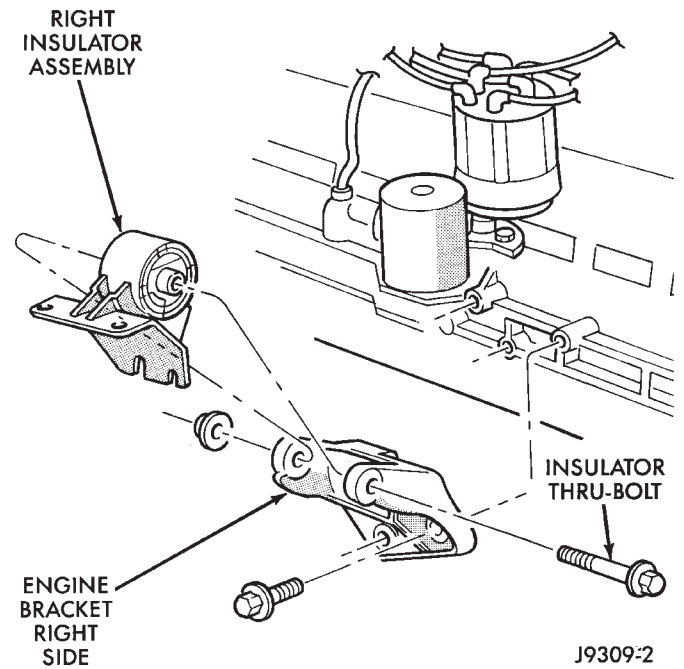

Fig. 6 Engine Mounts—Front (Right Side)
Resilient rubber insulator assemblies support the engine at each side (Figs. 6 and 7).
- (1) Disconnect the negative cable from the battery.
- (2) Raise the vehicle.
- (3) Support and raise the engine slightly.
- (4) Remove the nut from the through bolt (Fig. 6 or 7). DO NOT remove the through bolt.
- (5) Remove the insulator assembly retaining bolts (Fig. 6 or 7).
- (6) Remove the engine bracket attaching bolts (Fig. 6 or 7).
- (1) With the engine insulator assembly and engine bracket in position, install the through bolt and the retaining nut (Fig. 6 or 7).
- (2) Install the engine bracket attaching bolts (Fig. 6 or 7). Tighten the bolts to 61 N•m (45 ft. lbs.) torque.
- (3) Install the insulator assembly retaining bolts. Tighten the retaining bolts to 54 N•m (40 ft. lbs.) torque.
- (4) Lower and remove the engine support.
- (5) Tighten the through bolt nut to 65 N•m (48 ft. lbs.) torque.
- (6) Lower the vehicle.
- (7) Connect the negative cable to the battery.